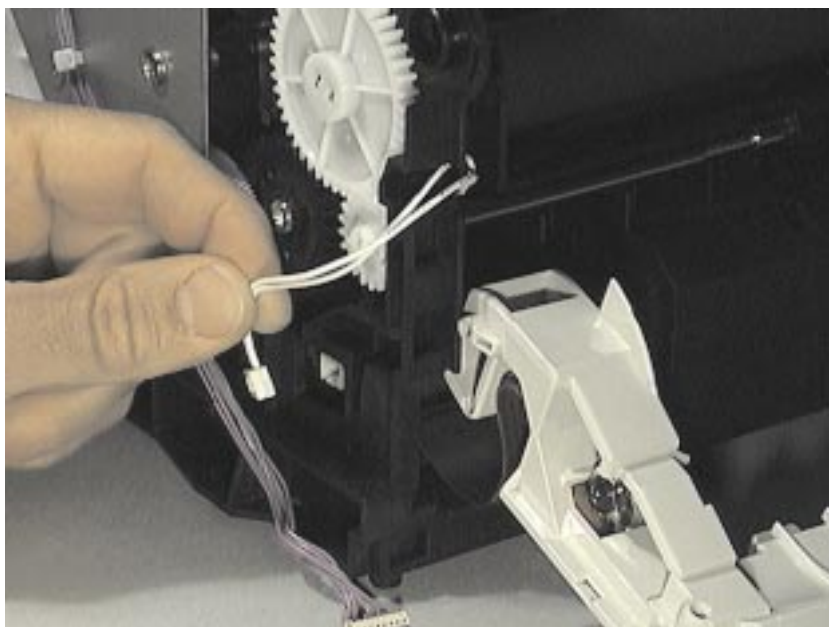

Figure 5-3 Thermistor Connector
- 2 Verify that the thermistor connector (Figure 5-3) is seated into both the printer chassis and the ECU (for printer disassembly instructions, see Chapter 4, "Removal and replacement").
- 5 Remove the thermistor connector (Figure 5-3) and measure the resistance between pins one and two.